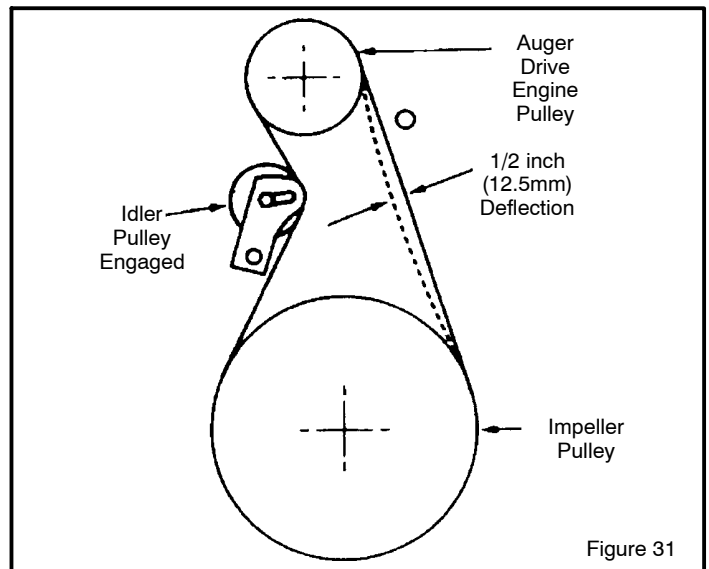

Figure 31
5. Have someone engage auger drive clutch. Check tension on belt (opposite idler pulley). Belt should deflect about 1/2 inch (12.5 mm) with moderate pressure (Figure 31). You may have to move idler pulley more than once to obtain the correct tension.